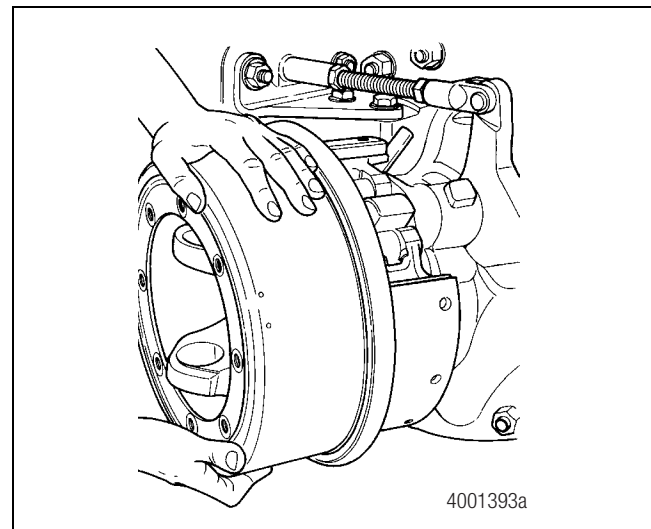

Figure 5.28
10. Install the brake drum onto the yoke flange. Install the nuts and the washers. Tighten the nuts to 85-115 lb-ft (116-155 N•m). Figure 5.28. **ⓘ**